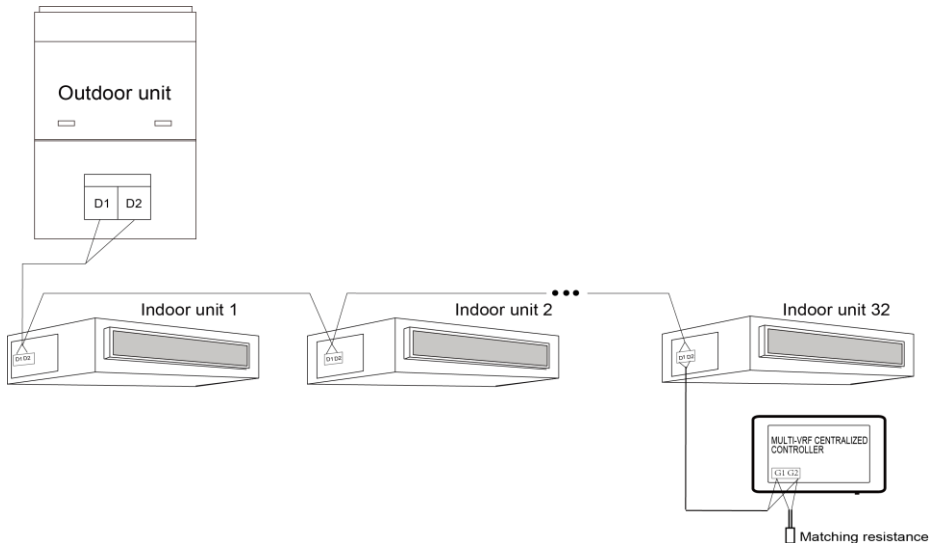

Fig.1.4 Centralized Controller Connected with Indoor Network
- ① The smart centralized controller is applicable to multi VRF units, connectable with network of indoor units or the network of outdoor units or mode converter network. One centralized controller can control up to 16 sets of outdoor system and up to 32 sets of indoor unit.
- ② If the centralized controller is to be connected with the network of indoor units, connect according to fig.1.4. The controller can connect with any one indoor unit in series, that is, connect the controller' s G1 and G2 ports with the D1 and D2 ports correspondingly with communication cords. When the controller is connected with the terminal unit of indoor network, a matching resistance needs to be added with the communication cords at the G1 and G2 ports.